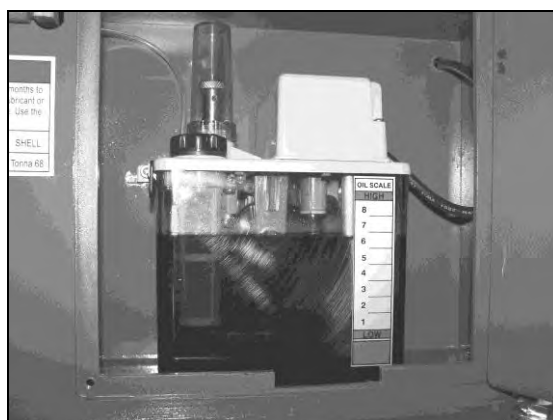

Figure 7
**Inspect chain lubricator reservoir (Figure 7) daily for adequate oil level. Failure to do so may result in machine failure.**